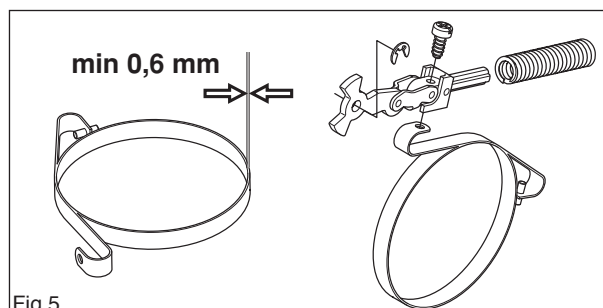
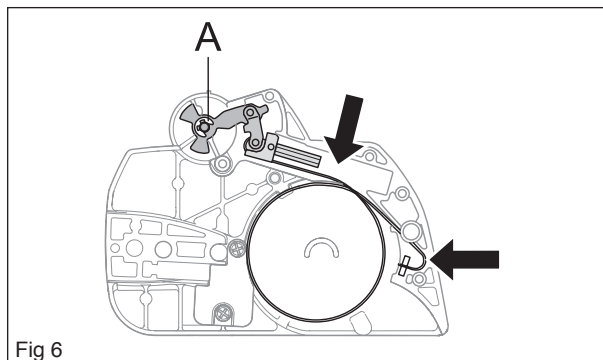

Fig 5
Fig 6
- Measure the thickness of the chain brake band. It must not be less than 0.6 mm at any point. (see figure 5)
Bolt the elbow joint to the brake band (see figure 5) and tighten to a torque of 1–2 Nm. Locate the elbow joint and connected brake band in their recesses in the clutch cover. Lubricate the recess for the spring with grease. (see figure 6)
Secure the circlip (A) (see figure 6)